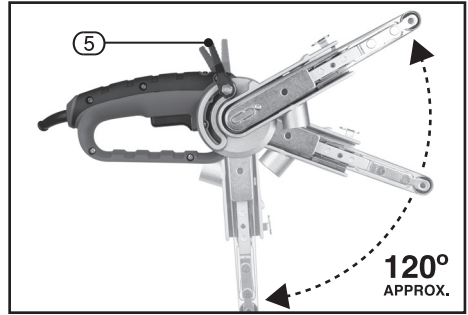

FIG.10
9.1 POSITIONING THE SANDING ARM – FIG.10